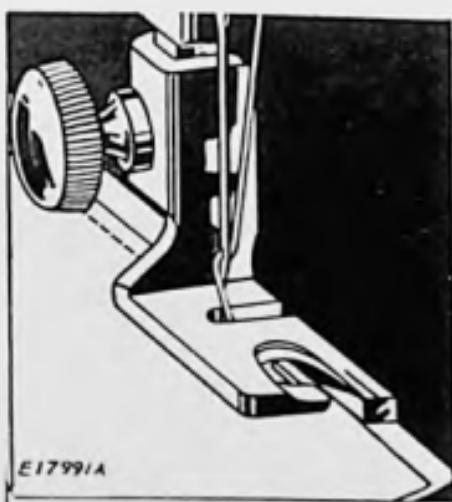

FIG. 39. MAKING A FELLED SEAM
(1) Place the right sides of the material together, having the edge of the upper piece about $1\frac{1}{8}$ inch to the left of the edge of the under piece. Stitch the two pieces together, using the hemmer as a presser foot. Guide both pieces by the projecting toe of the hemmer, as shown in Fig. 39.